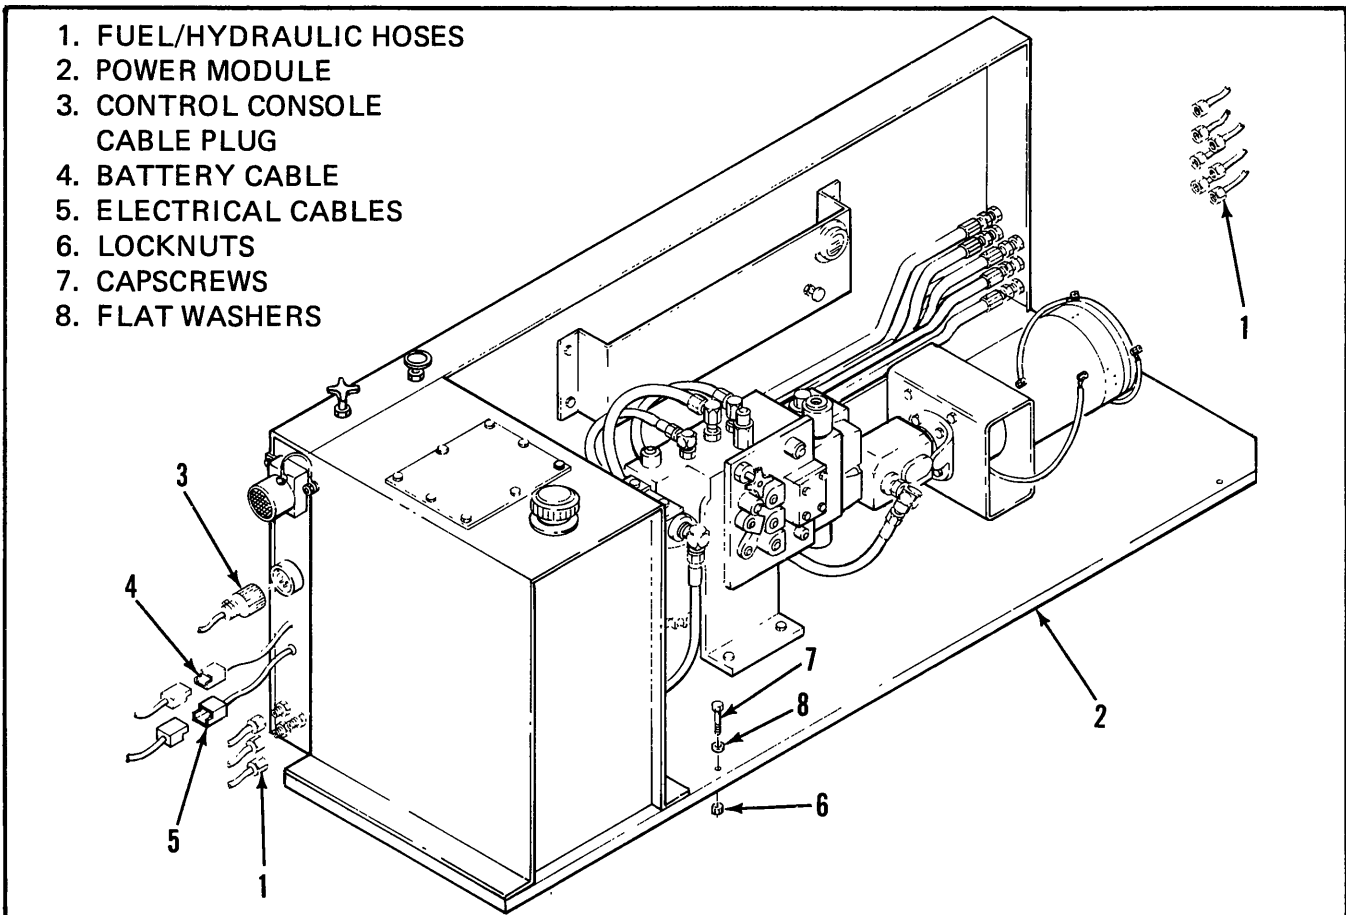

Figure 5-3. Power Module Removal
- a. Removal (Figure 5-3). Perform the following procedure to disconnect and remove the power module.